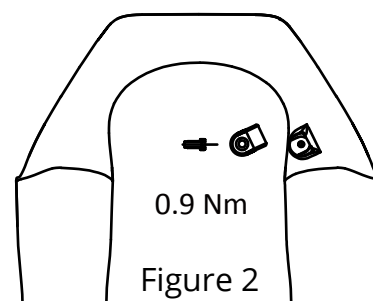

Figure 2
2. Fix the disc brake hose onto the Giant Crest suspension fork using the supplied bracket and tighten the bolt to the recommended torque value, as shown Figure 2.